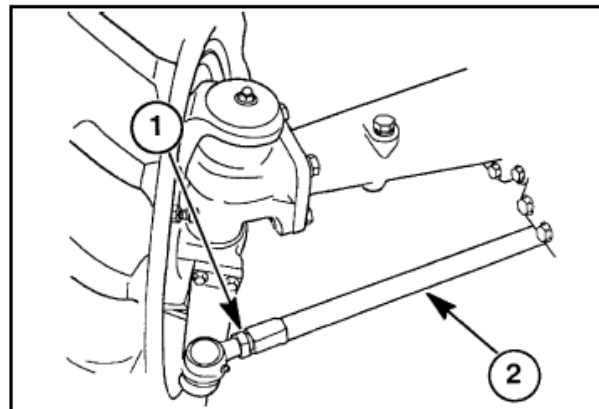

Figure 3-48
1. Loosen the tie rod locknuts (1) in Figure 3-48.
2. Adjust the tie rod tubes assemblies (2) in Figure 3-48, as required to give 0 mm – 5 mm toe-in.